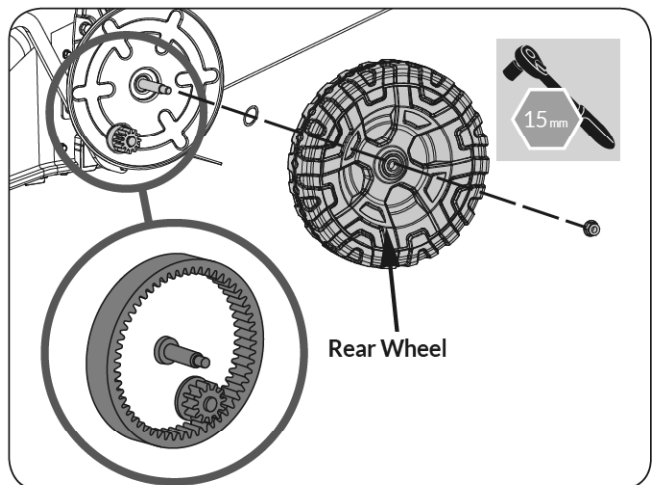

Figure 49
4. Assemble the new wheel with wheel nut and washer. (See **Figure 49**)